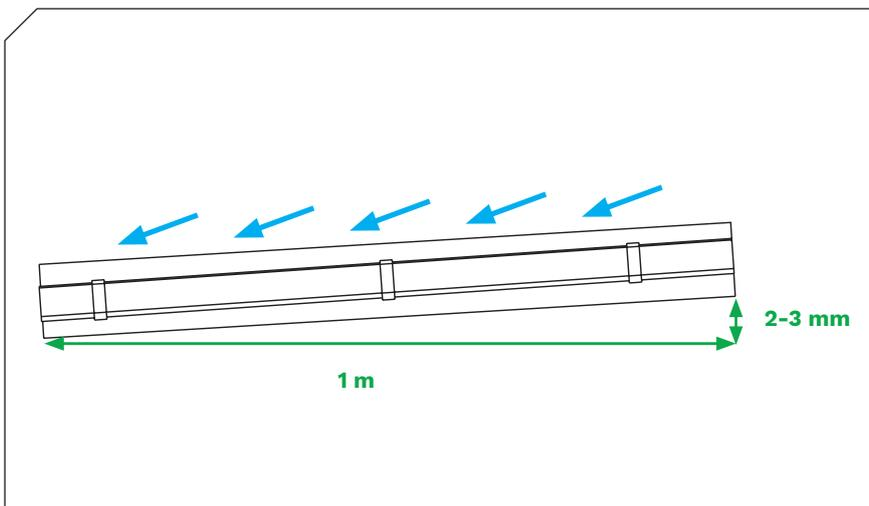

Figure 7
2.5 The recommended slope of the gutter towards the outlet is **2-3 mm for 1 running meter of the gutter.** **(Figure 7)**